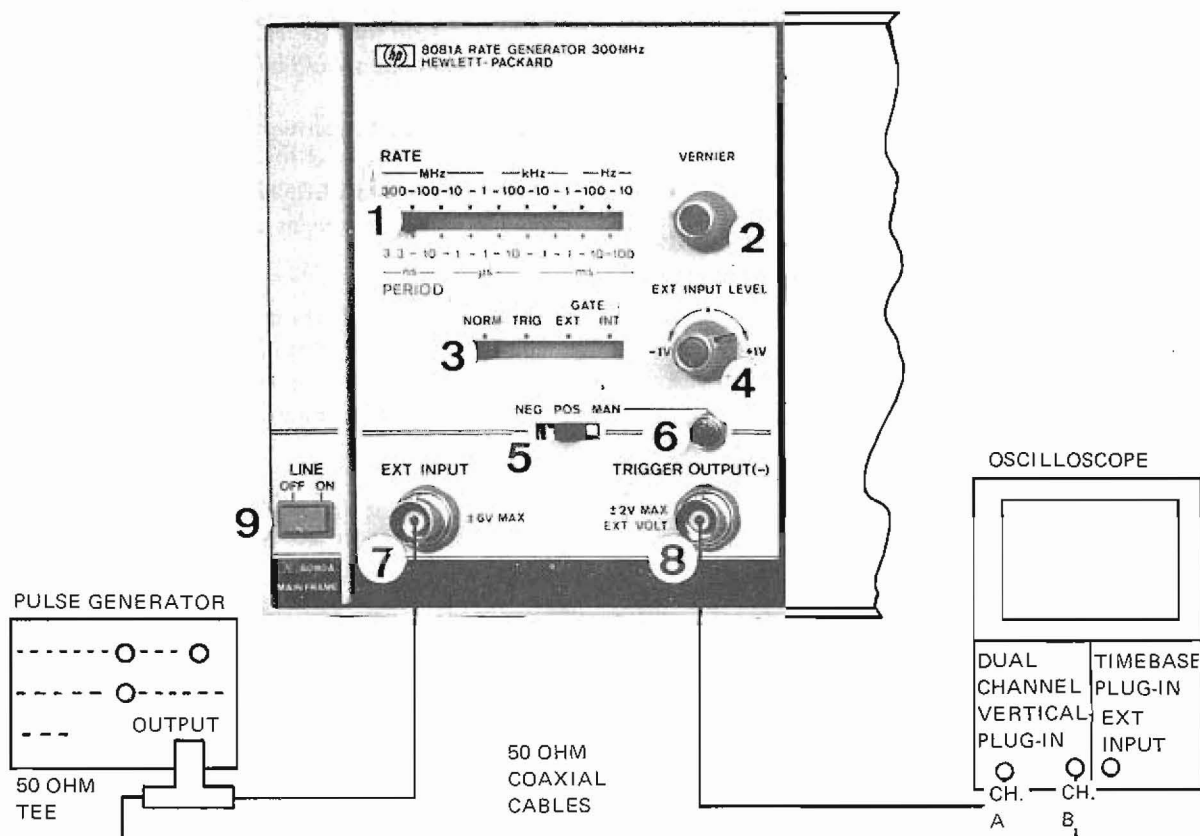

Figure 3-3. Suggested Equipment Setup for Operating Instructions
3-22 A suggested equipment setup for the Operating Instructions is shown in figure 3-3.
3-29 In TRIGGER mode, the repetition rate of the output is independent of the internal repetition rate generator. The output is, in fact, a pulse-shaped version of the input signal. The input can be either external via the EXT INPUT ⑦ or local using the MAN pushbutton ⑥. For external triggering, an external signal source is required. The test set is as shown in figure 3-3. The changes in control settings are as follows.